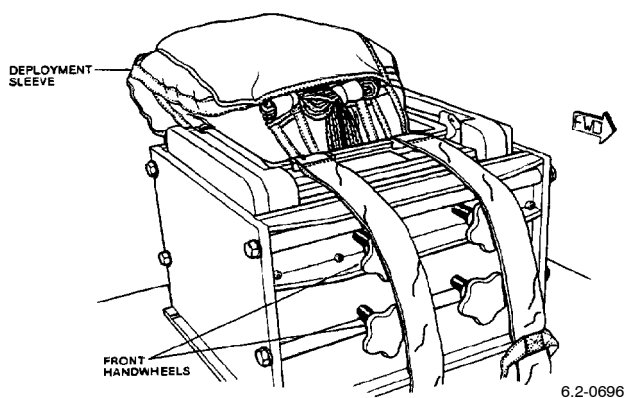

Figure 43. Parachute Pack Positioned in Packing Box Assembly
e. Release cover flap ties from bottom mounting brackets. Place parachute container in packing box assembly (Figure 43).